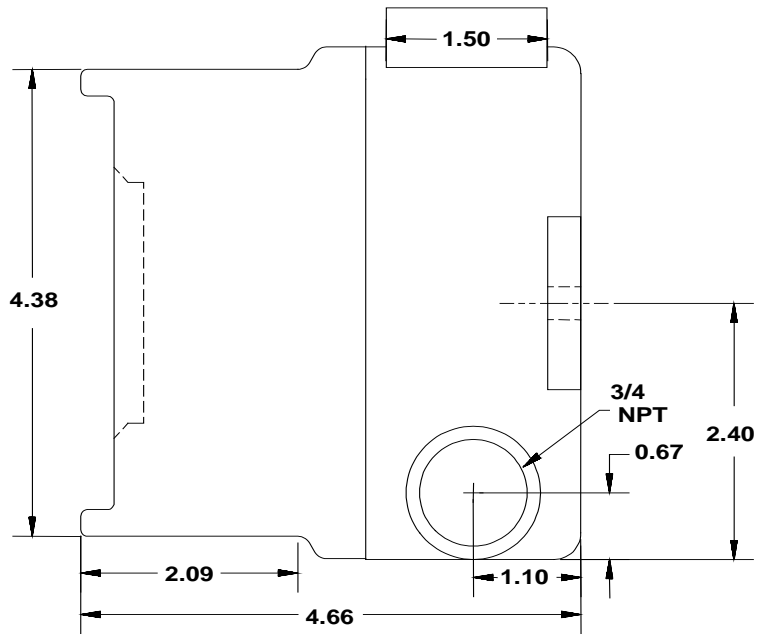

Figure 6: Model SS4-AUV/AUV2 Detector Enclosure - Side View
- a. Insert the cables into the metal enclosure base through one of the conduit openings. Refer to Figure 6
- a. Insert relay cables into the Detector enclosure base through one of the conduit openings. Refer to Figure 6.